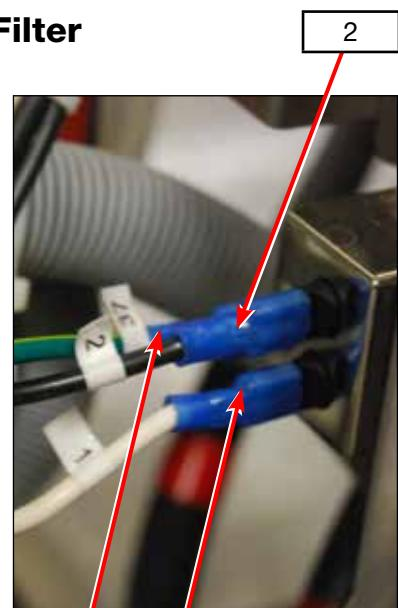

Figure 39
2. Reconnect wiring. (Figure 39)